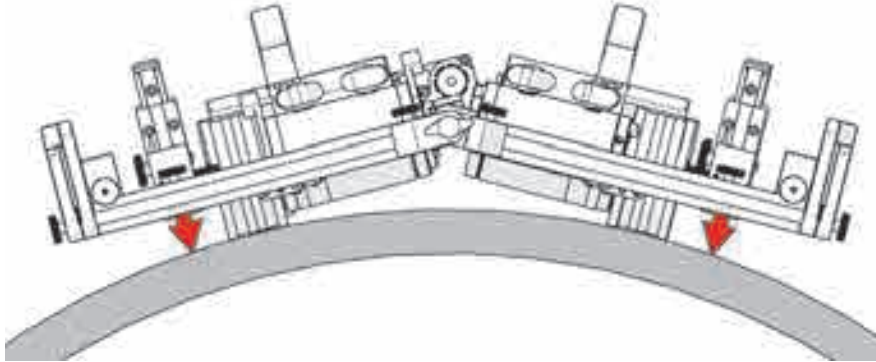

Figure 4-117 Tighten pivot wing knobs
2. Lower the left side of the rack system to align with the tangent of the scan surface, and then tighten the pivot wing knobs (see Figure 4-117 on page 181).